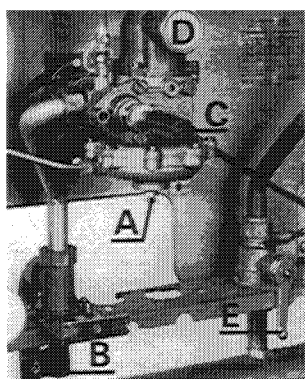

Fig. 16
With the pump fitted, the system should be filled and air locks cleared. The boiler water section can be vented if necessary by unscrewing the drain valve (see A fig. 16). Vent all radiators and check for water soundness.
With the circulating pump fitted, the system should be filled and air locks cleared until the pressure gauge registers 1.5 bar (21.5 p.s.i.). (The boiler water section can be vented if necessary by unscrewing the drain valve, see A fig. 16). Vent all radiators and check for water soundness.
b) Open gas service tap by turning to  $\uparrow$  (see B fig. 16).
c) Press in pilot valve knob and light pilot using the ignition button, continue to hold in the pilot valve knob for 30 seconds and release (n.b. the pilot should remain alight, it may be necessary to wait a few moments for gas to reach the pilot) (see C fig. 16).
Remove the pressure test point screw from the left hand end of the burner manifold and connect pressure gauge suitable for measurement in the range 0-20 mbar (0-8 in.w.g). Remove the hexagonal cap from the front of the gas volume governor to expose the adjusting screw (D fig. 16).
The data badge is situated at the bottom right hand side of the chassis (fig. 16).
Close the isolating valves on the boiler by turning in a clockwise direction. Drain the boiler by unscrewing the drain valve (A fig. 16).